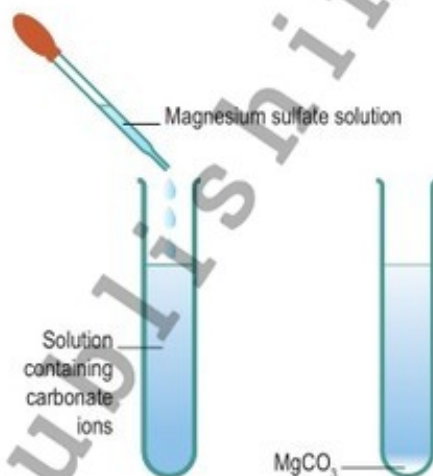

Figure 11.28
- A white precipitate indicates the presence of chloride ions (Figure 11.28).